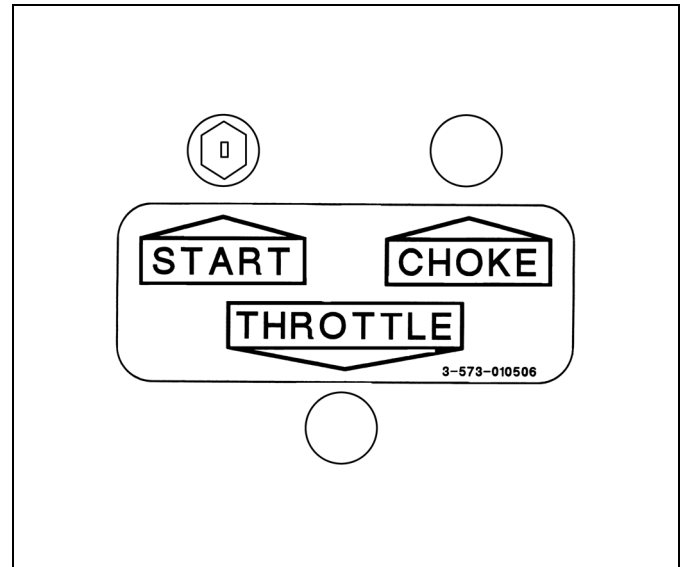

Figure 3-6: Engine Control Panel
2. The Engine Ignition Switch, Choke and Throttle are on the Engine Control Panel mounted on the drivers side of the engine package (See Figure 3-6.)
- The **HYDRAULIC POWER SUPPLY ENGINE THROTTLE** controls the speed at which the engine operates (See **Figure 3-6.**) It is a variable position control: